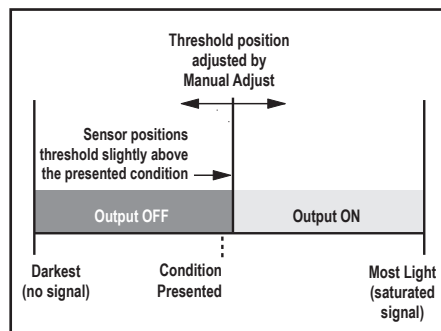

Figure 9. Single-Point Dark SET (Light Operate shown)
- Sets a threshold slightly above the taught condition (see figure 9).